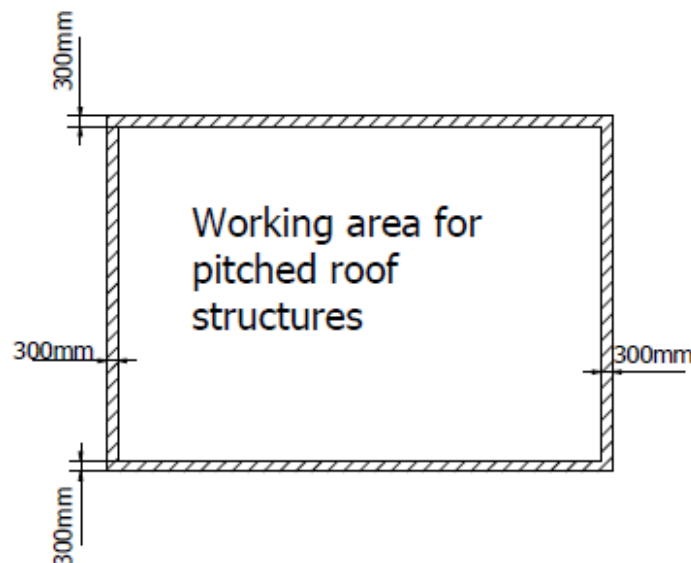

FIGURE. 1 Working area for pitched roof structures
- 2. The layout of the modules shall be arranged to minimize or preclude the appearance of shadows on the modules. Keep in mind that even the shadow cast by trees or buildings can limit the yields generated by modules. When mounting the system in the summer, be aware that the shadow cast by trees and neighboring buildings will reach much further in the winter. Also, remember to keep the safe zone on the roof sheathing (figure 1).**